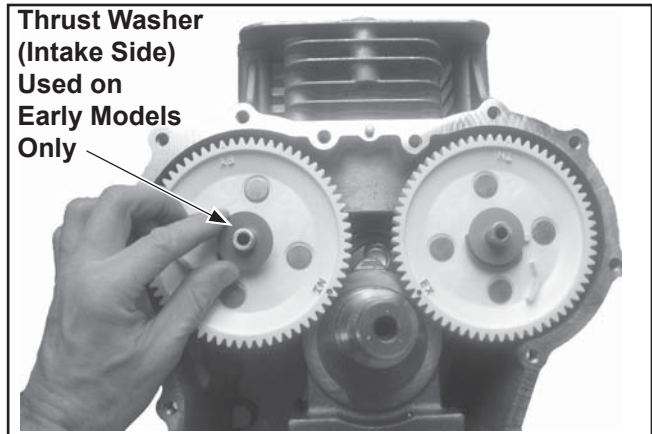

Figure 10-31. Installing Intake Cam Gear and Thrust Washer.
1. Lift the intake cam lever and install the intake cam gear onto the intake cam shaft, engaging the slot with the upper drive pin. Rotate the gear and shaft so the **IN** timing mark on the cam gear is in the 4 o'clock position. **Early Models Only:** Install the thrust washer (if used originally), onto the cam shaft. See Figure 10-31.